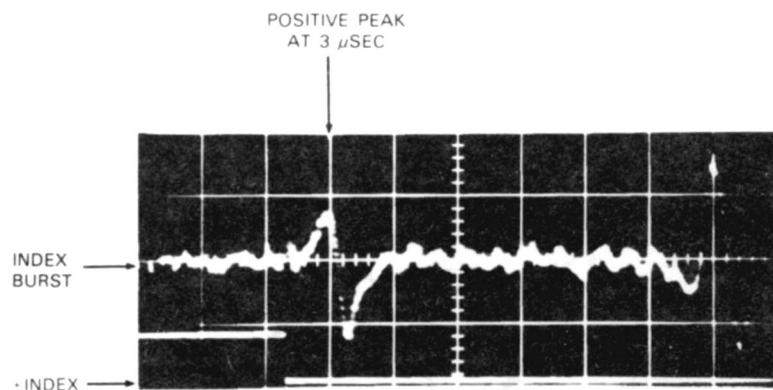
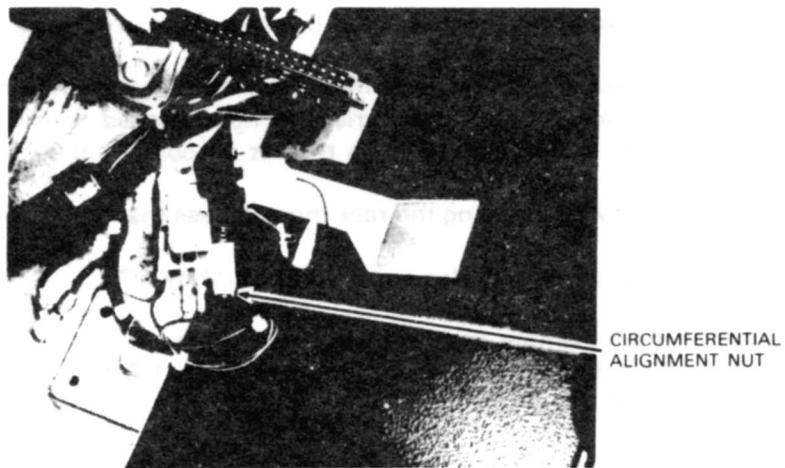

FIGURE 5-2. PULSE BURST
FIGURE 5-3. INDEX TRANSDUCER
4. Check the pulse-burst timing of the selected head. The scope trace should resemble the one illustrated in Figure 5-2. The pulse burst should occur 3 μ sec ± 2 μ sec after the leading edge of +Index.
While observing the burst-track display (Figure 5-2) on the scope, tighten the adjustment nut slightly (Figure 5-3). If tightening the nut causes the pulse burst to appear closer to the 3 ± 2 μ sec range after Index, continue tightening until the pulse burst falls within that range. If not, loosen the nut until the pulse burst occurs after the optimum interval.